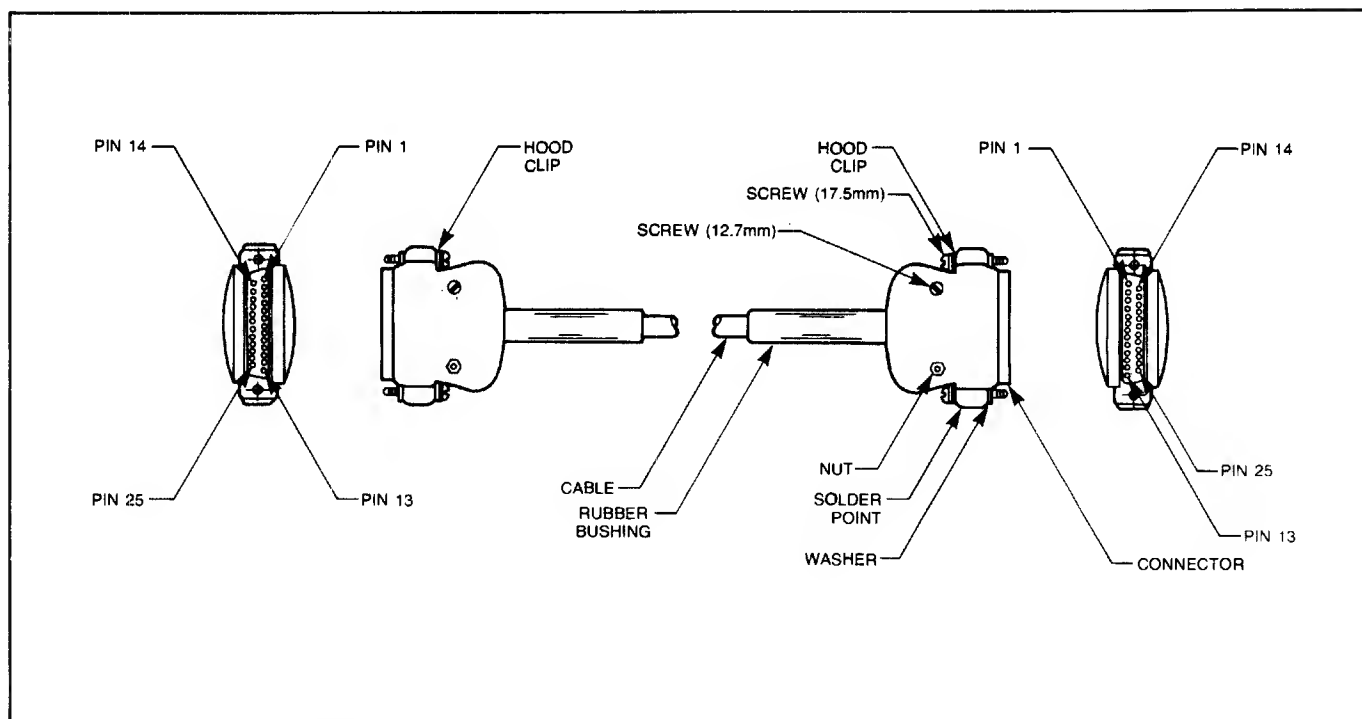

Fig 2-7 Cable Fabrication
3. Insert each wire to be used into a pin, crimp the pin and insert each pin into the correct hole in the connector (figure 2-7).